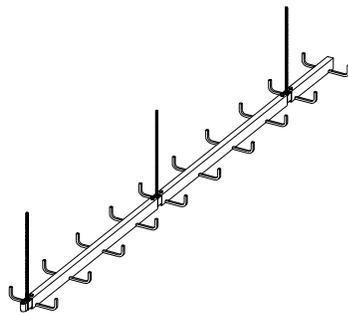

Figure 4.6A
4.2.1.6 Single Rail Cable Tray Hangers (See Figures 4.6A through 4.6C)
For single rail cable tray see Figures 4.6A, 4.7D, and 4.7E.
To begin, place a straight section across two supports so that the ends of the section are not directly on the support (Figure 4.10B). If the support span is equal to the length of the straight sections, bolt two pieces together for this step (Figure 4.10C). **The support span should not be greater than the straight section length or as recommended by the manufacturer, to ensure no more than one splice is located between supports.** As a general practice, avoid placing splice plates over supports or at mid-span. However, certain cable tray systems (see Figure 4.6A) and certain splice designs allow for random splice location. See manufacturer for details.